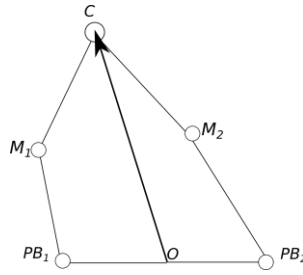

Figure 5
- b) For the parallel manipulator given below (Fig. 5) do the following: